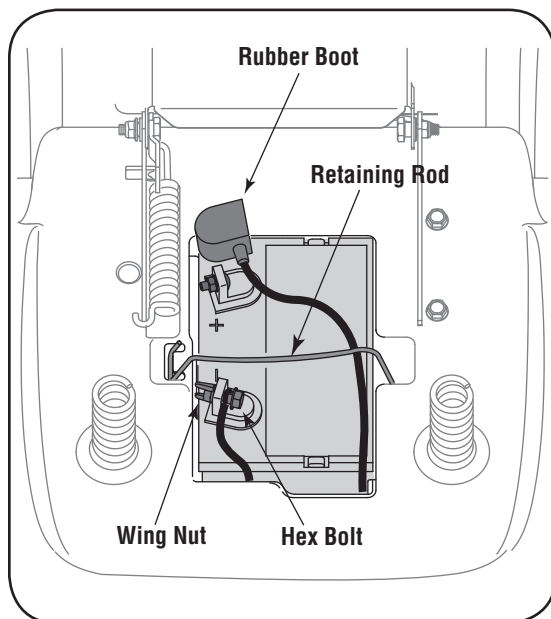

Figure 3-1
- Make certain the retaining rod is in position over the battery, securing it in place. See Figure 3-1.